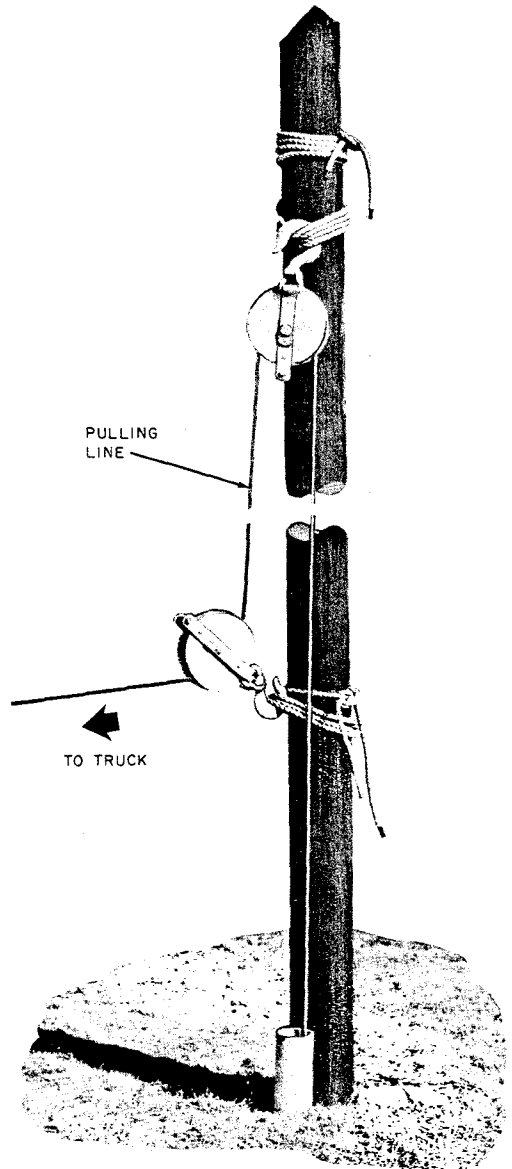

Fig. 2—Cable Pulled From Pole
3.03 Where the pull cannot be made from the manhole, it can be made from the pole as illustrated in Fig. 2. At building walls, the pole derrick can be used to pull the cable.